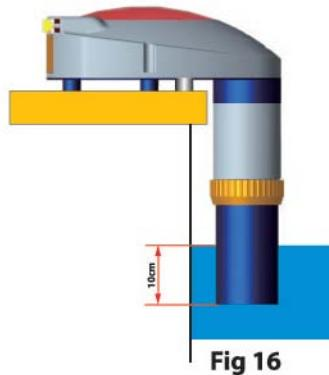

Fig 16
- 8.1. It is suggested that the sensor tube should be submerged 10 cm into water (see Fig. 16) Do not touch the sensor directly with your hand.